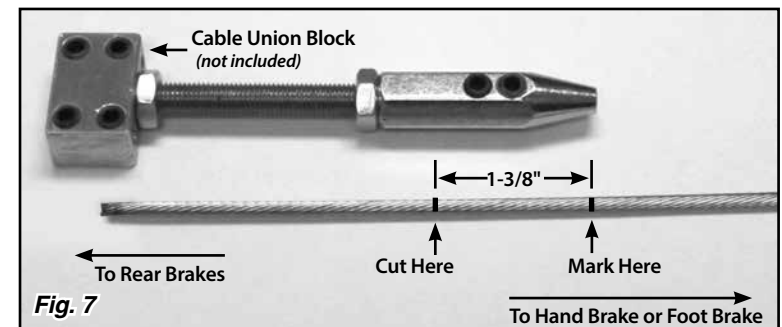

Fig. 7
Step 11: Measure 1-3/8" further towards the rear end of the inner wire and make a second mark. Cut the inner wire at the second mark, so approximately 1-3/8" of the inner wire can be inserted into the single wire union assembly. **Fig. 7**